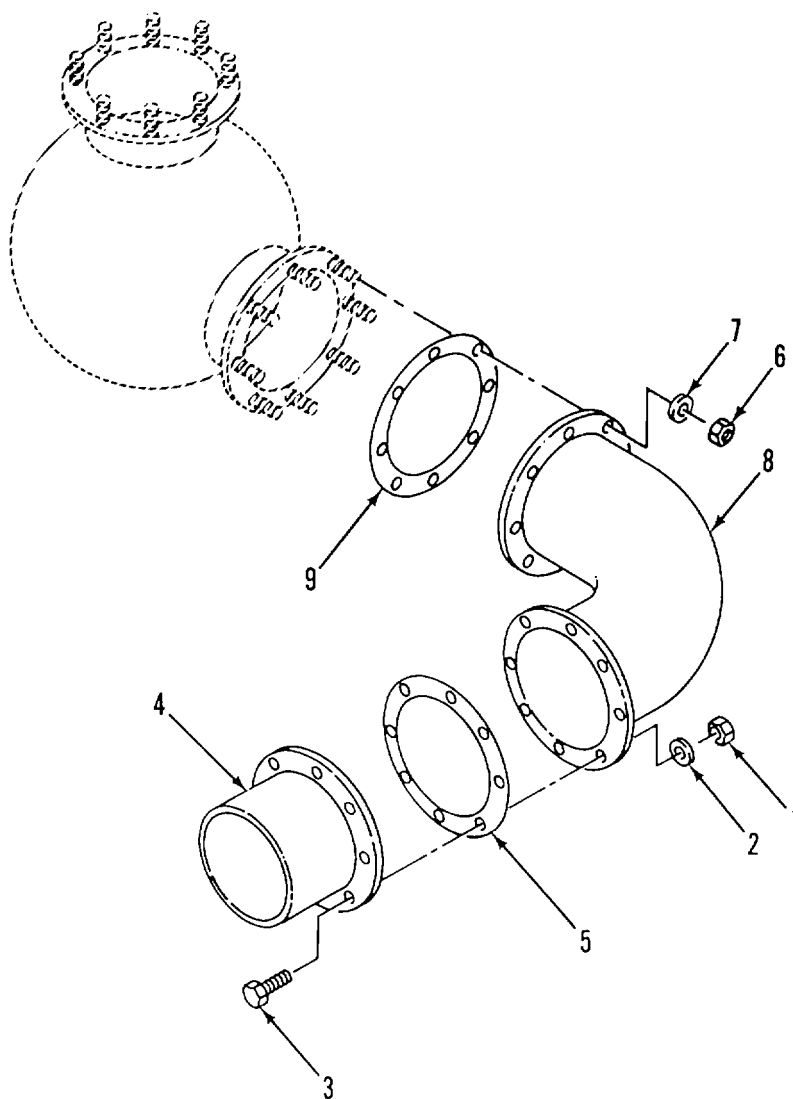

Figure 3-31. Pump Suction Line.
a. REMOVE. (Figure 3-31)
- (1) Remove nuts (1), lockwashers (2), and bolts (3).
- (2) Remove suction line nipple (4).
- (3) Remove gasket (5).
- (4) Remove nuts (6) and lockwashers (7).
- (5) Remove suction line elbow (8).
- (6) Remove gasket (9).